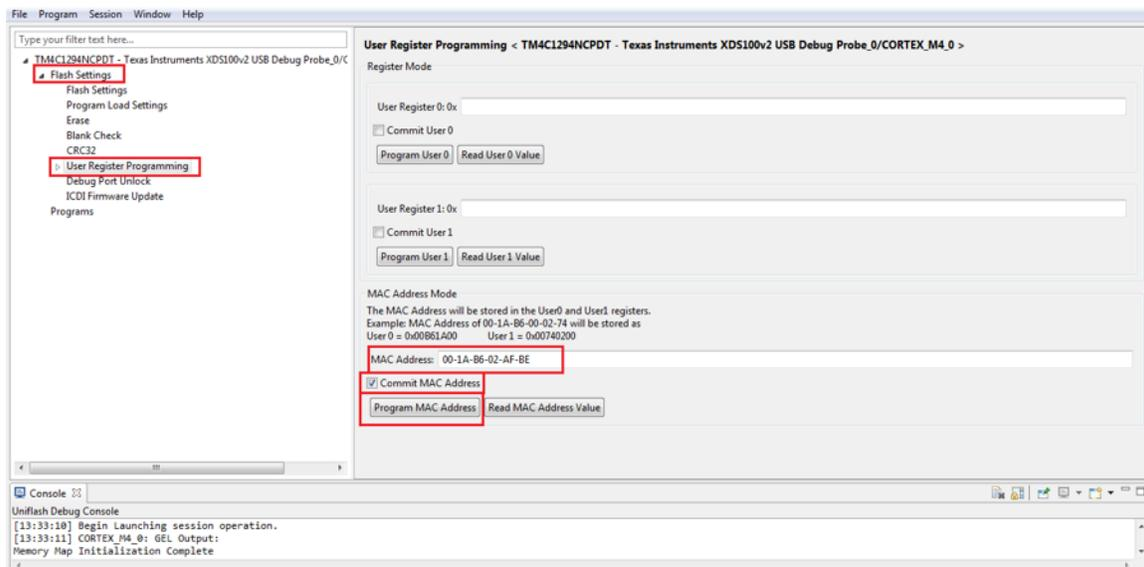

Figure 17. Programming the MAC Address
4. Once the target configuration file is loaded, expand *Flash Settings* and click on *User Register Programming* option. In the main window, go to *MAC Address Mode*, and program the MAC address!- as per your block allocation of MAC address (see Figure 17). Ensure that the checkbox in front of *Commit MAC Address* is selected before pressing the *Program MAC Address* button.